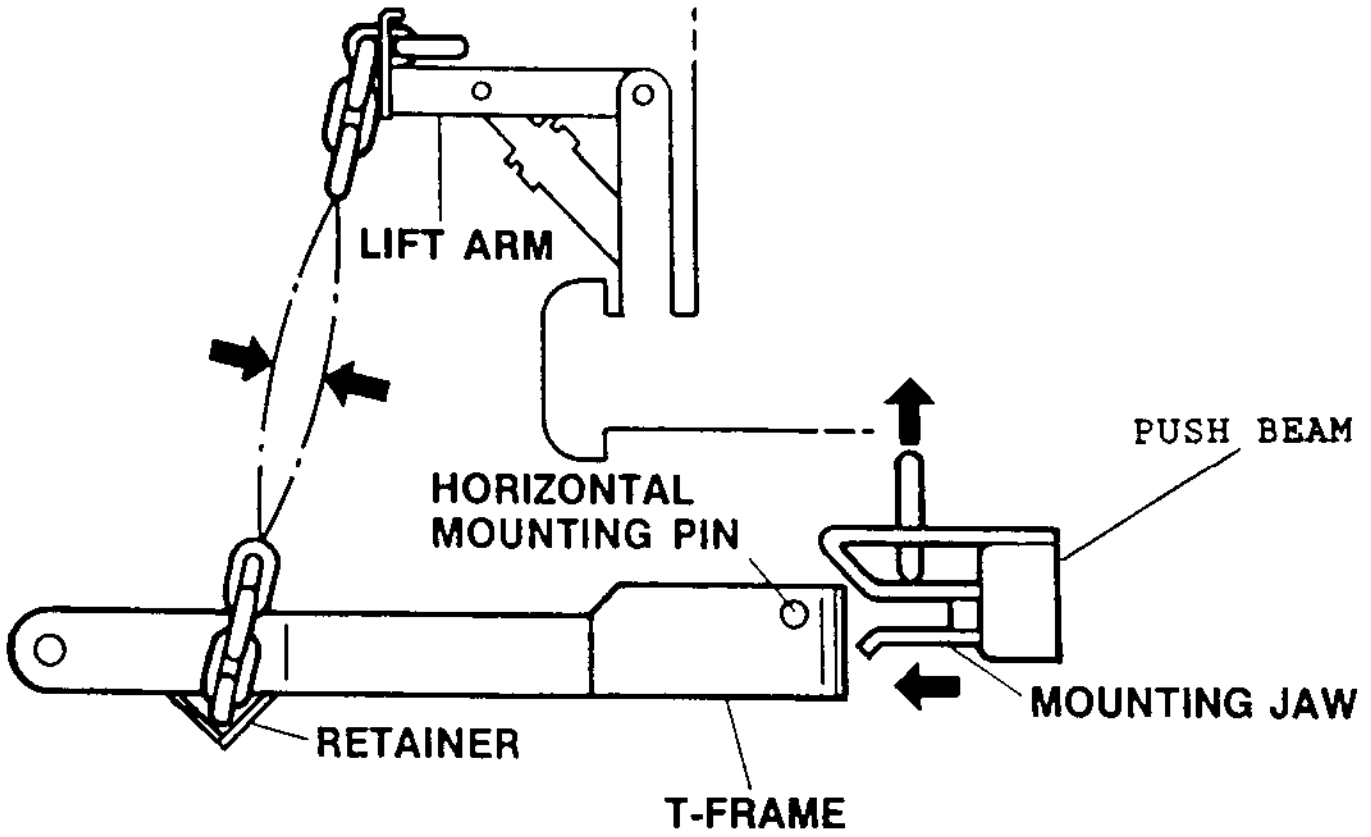

Figure 2
A) V-Plow Measure from the center of the HORIZONTAL MOUNTING PIN (see Figure 2) on the T-FRAME to the ground when the plow is in the vee position. Position the PUSH BEAM ASSEMBLY to the appropriate height so the MOUNTING JAWS (see Figure 2) will accept the HORIZONTAL MOUNTING PIN on the T-FRAME.
B) Straight Blade Plow The distance from the ground to the top of the lower mounting jaw should be approximately 11-1/2" (See Figure 2).